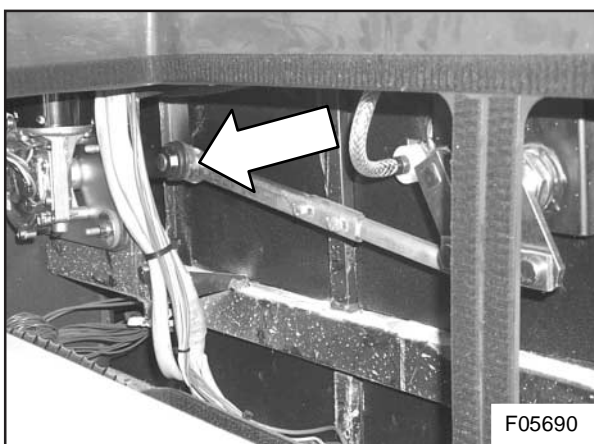
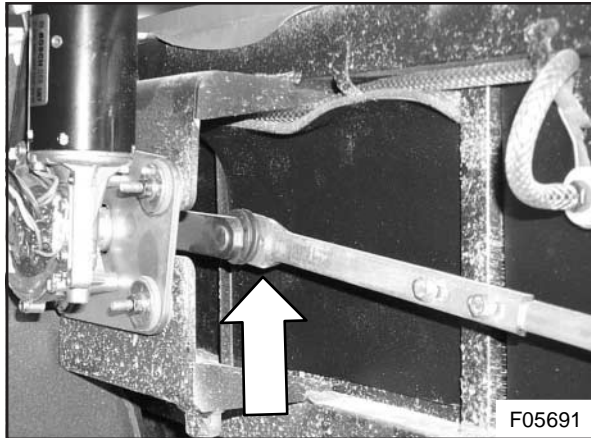

Figure 4: Bell crank and clamp location
Figure 5: RH wiper tie bar inner knuckle
- 7) Locate the bell crank and clamp behind the wiper motor mounting bracket (see Figures 4 and 6). With the wipers in the parking position and the wiper motor switched off, the bell crank and bracket are horizontal, i.e. parallel to the coach floor (see Figure 5). Carefully take note of their installation.
- 8) With a 1¹/₁₆" open-end wrench, lever the right-hand wiper tie bar from the bell crank knuckle joint (see Figure 5).